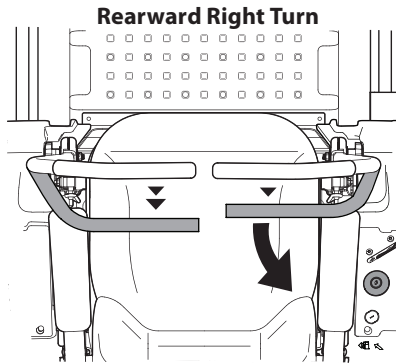

Figure 30
2. To turn to the right while traveling in reverse, move the right drive control lever forward of the left lever. See Figure 30.